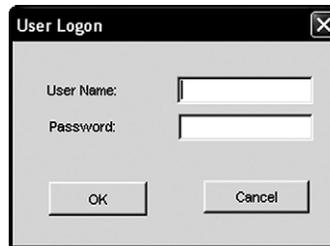

Figure 8. The Medalist i5000 engineer logon dialog box
- The operator does not need to log-off for an engineer to have access to the system (for debugging a test program or device, for example). Simply go to “actions \Rightarrow login ...” or press the ‘F9’ key on the keyboard and you will see a logon prompt (Figure 8).